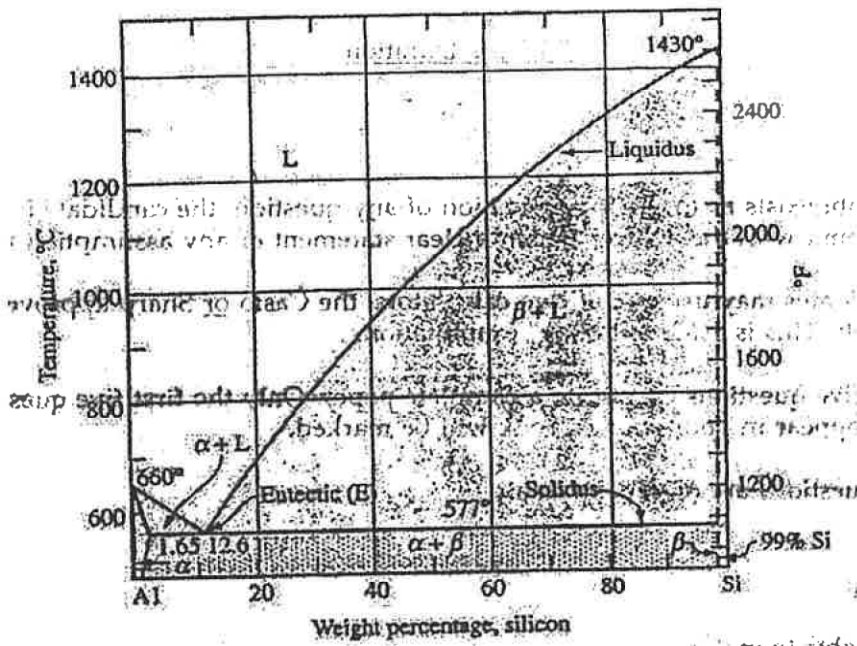

Fig 1. Aluminum – Silicon Phase Diagram
4. Fig 1 shows the Aluminum - Silicon phase diagram. An automobile engine block is cast using a 20% Si - 80% Al alloy. At what temperature will the casting start to solidify? At what temperature is solidification complete? Assuming slow cooling describe the microstructures present at room temperature. How much (if any) of the microstructure will be eutectic? Why would this composition be a good choice as a casting alloy compared with pure aluminum?